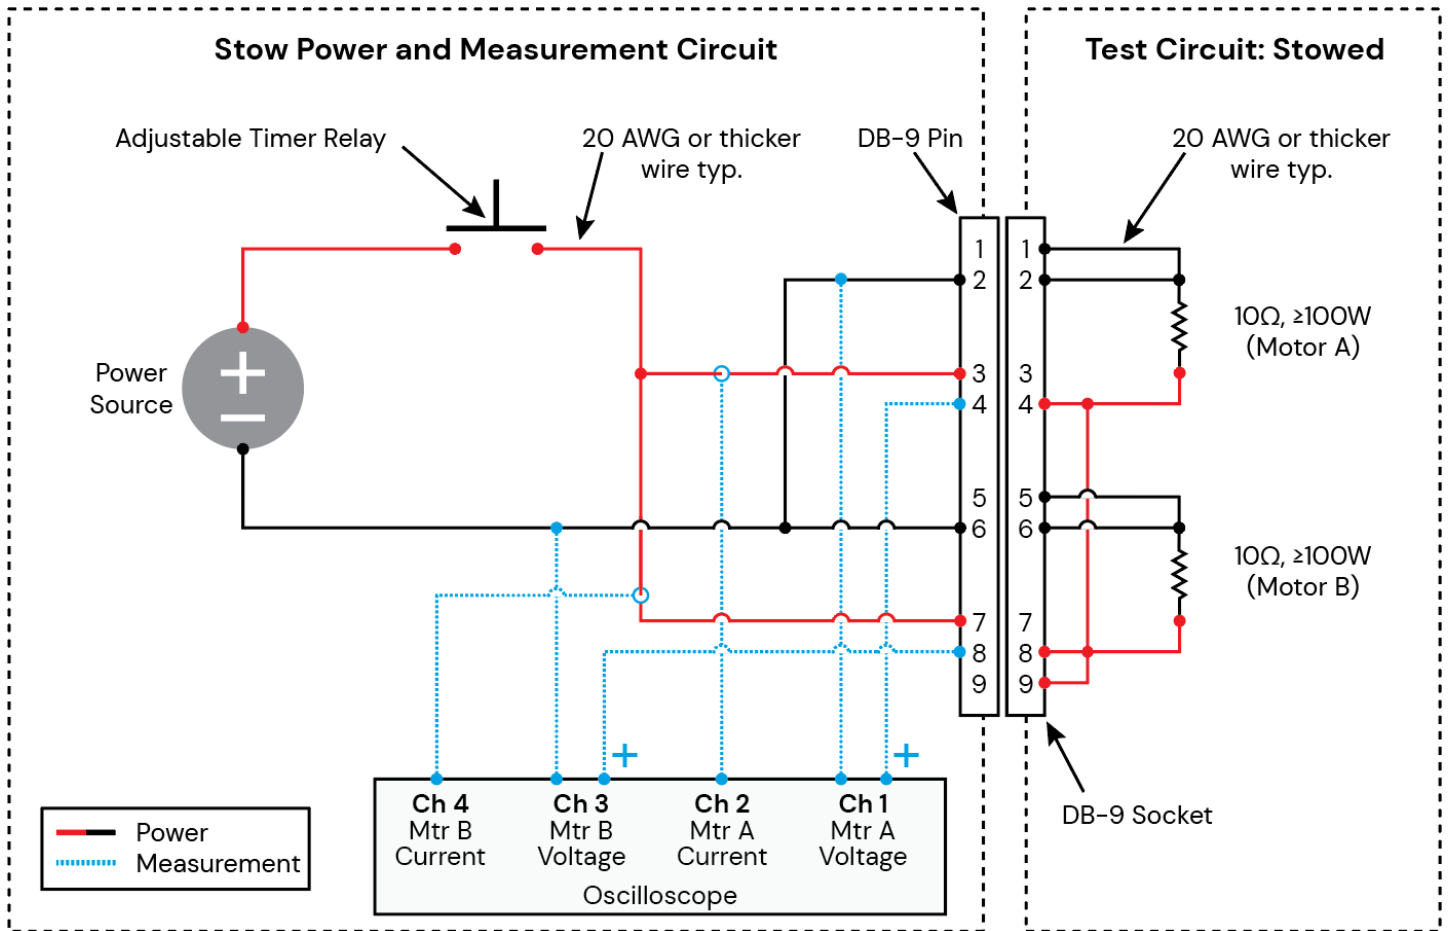

Figure 9-3: Stow test circuit #3
9.3.1	Set up the Test Circuit: Stowed per Figure 9-3.